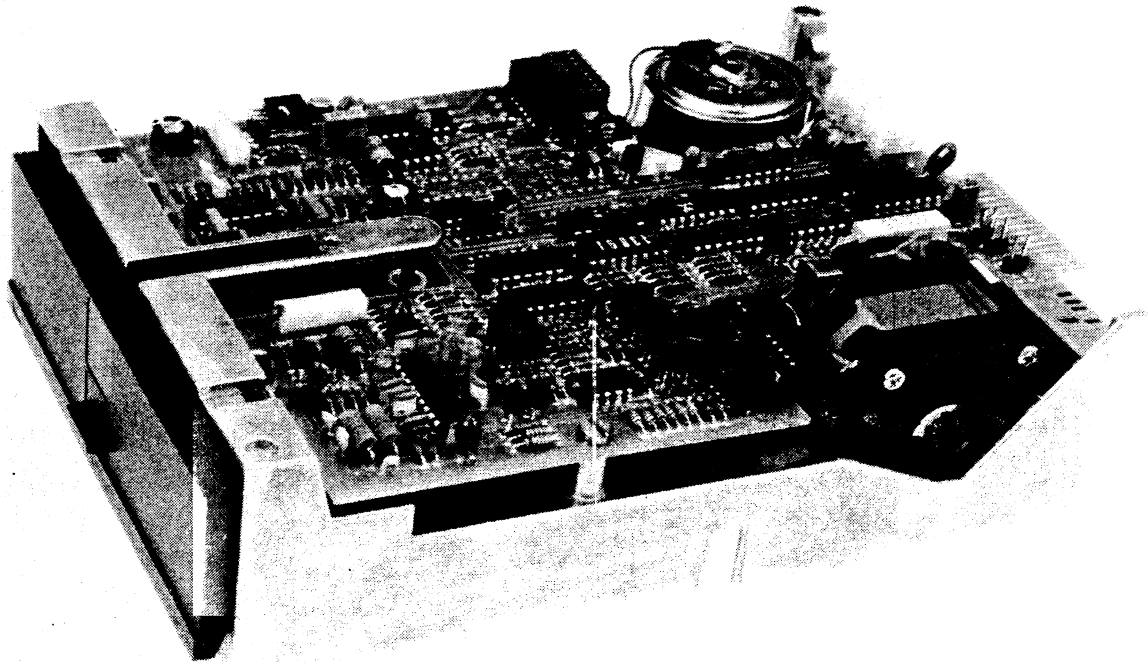

Figure 1.1 X3114 MINI FLEXIBLE DISK DRIVE
1.2 PHYSICAL DESCRIPTION (FIGURES 1.1 AND 1.2)